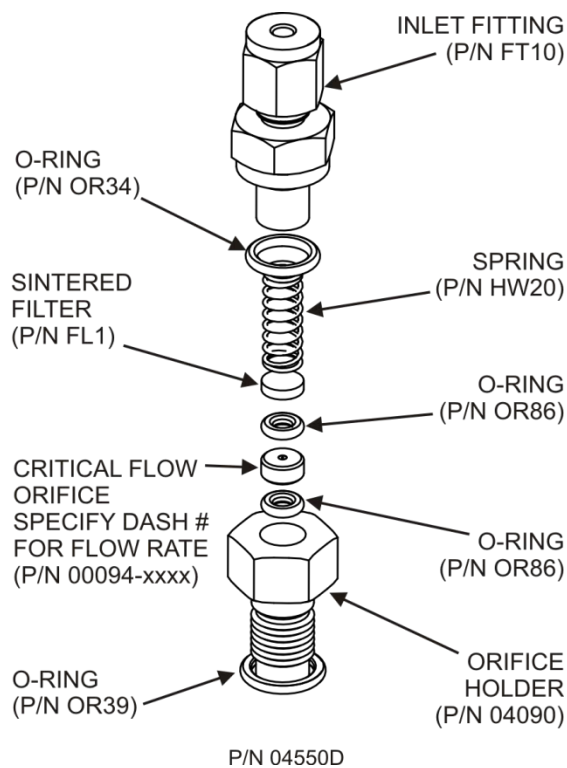

Figure 5-12. Critical Flow Orifice Assembly
- This part holds all components of the critical flow assembly as shown in Figure 5-12.
For orifices in the vacuum manifold: the assembly is similar to the one shown in Figure 5-12, except:
8. Reassemble the parts as shown in Figure 5-12.